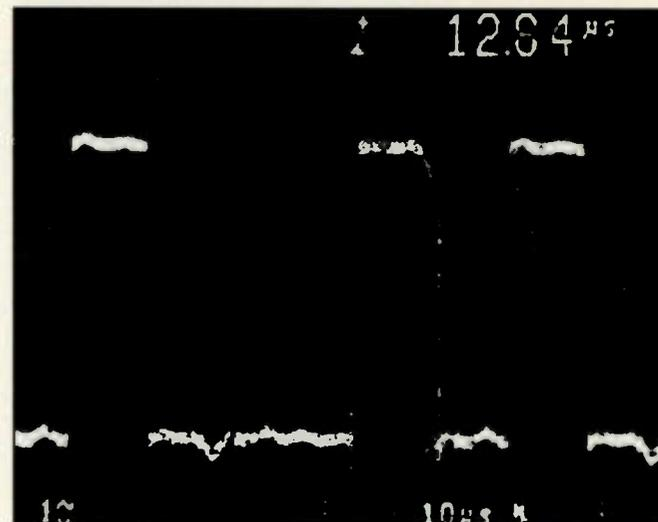

Figure 6. (Lower Right) Waveform seen at pins 12, 15 and 18 of IC40F1
**Figure 6.** To obtain the most effective bandpass circuit, the fc of the individual filters should overlap somewhat, but only after the half power points (70.7%, or -3dB) have been factored in. Figure 6B illustrates a practical bandpass circuit based on the operational amplifier.
video output waveforms at pins 12, 15 and 18 of IC401. Figure 6 is an example of those waveforms.